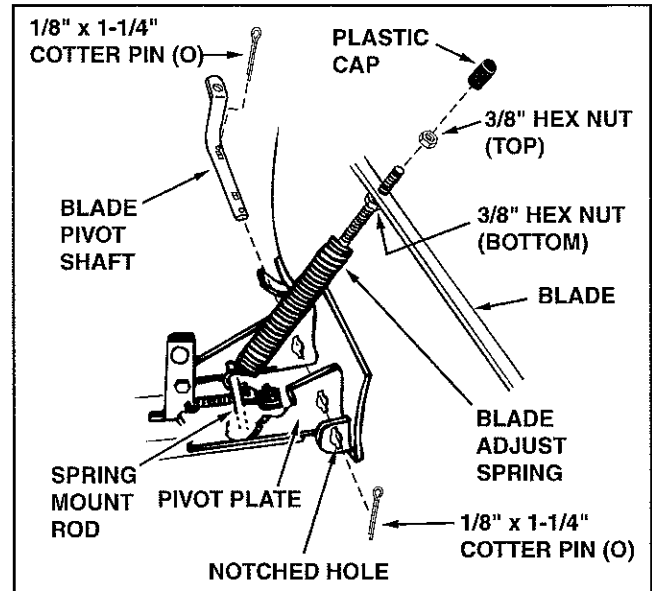

FIGURE 14 (Right Hand Side View)
26. To attach the blade to the channel assembly, align the notched holes in the pivot plate with the notched holes in the blade. Insert a 1/8" x 1-1/4" cotter pin (O) down through the hole at the bend in the blade pivot shaft. Spread the ends of the pin. From the left side insert the blade pivot shaft, bend facing top of blade, through the notched holes. Secure the shaft with another 1/8" x 1-1/4" cotter pin (O) through the end hole in the shaft. Spread the ends of the pin. See figure 14.
27. Remove the plastic cap and one 3/8" hex nut from the bolt in the blade adjust spring. Adjust the remaining 3/8" hex nut down approximately 1" onto the bolt threads. Hook the spring over the spring mount rod. Place the bolt up through the hole in the top edge of the blade and reassemble the other 3/8" hex nut to the bolt and tighten down against the top edge of the blade. Replace the plastic cap over the end of the bolt threads. See figure 14.
1. The tension of the blade adjust spring may be altered to permit the blade to tilt forward to bypass solid obstructions. To change the spring tension, adjust the nuts at upper end of the spring bolt. Standing in front of blade, turn the nuts counterclockwise to relieve tension and clockwise to increase tension. Refer to figure 14 on page 7.